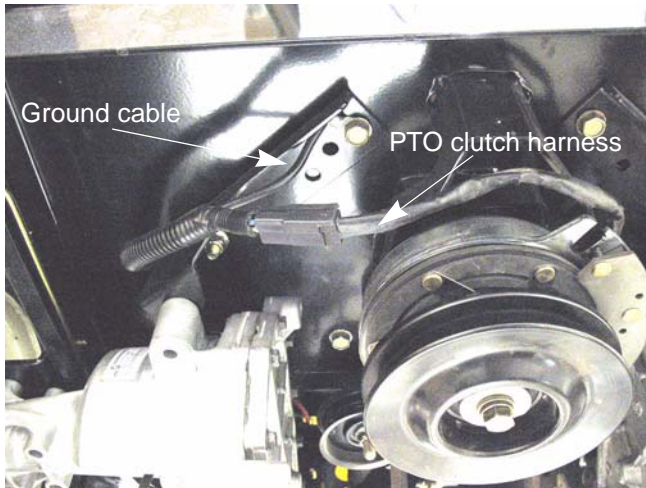

Figure 4.7
4. Disconnect the PTO clutch harness. See Figure 4.7.
5. Disconnect the ground cable from the frame. See Figure 4.7.